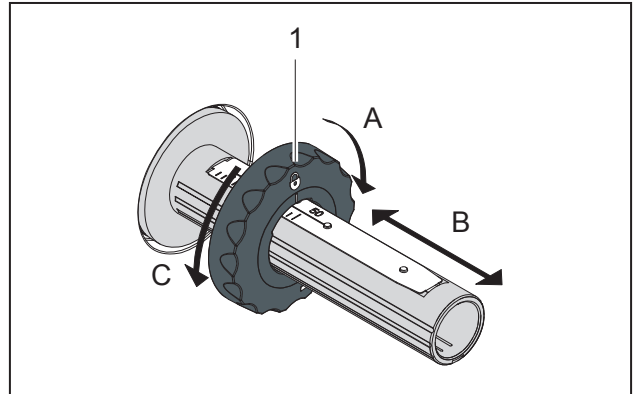

Fig. 11 Guide Adjustment
- 2 Turn lever (6) counterclockwise to open the printhead.
- 3 Set guide (1) on both hubs to the correct transfer ribbon width (Fig. 11):
- Hold hub and unlock guide (1) by turning it in direction A.